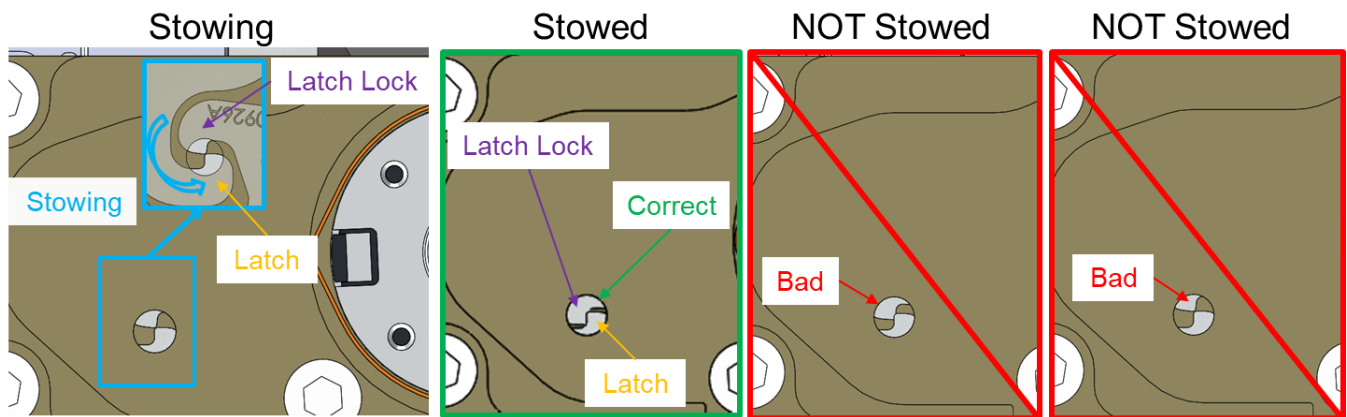

Figure 11-6: Visual Verification of Stowed Latch
11.2.5	<p>If “ping” is heard, continue to step 11.2.7.</p> <p>If no “ping” is heard, the ALB may still have correctly stowed. In some integration environments, loud background noise can make hearing the “ping” difficult. ALB stow can also be verified visually by looking at the Latch through use of a borescope between the ALB Leaves. See Figure 11-6. If latched correctly per Figure 11-6, proceed to step 11.2.7.</p>
11.3.4	If “ping” is heard, continue to step 11.3.6. If no “ping” is heard, the ALB may still have correctly stowed. In some integration environments, loud background noise can make hearing the “ping” difficult. ALB stow can also be verified visually by looking at the Latch through use of a borescope between the ALB Leaves. See Figure 11-6. If latched correctly per Figure 11-6, proceed to step 11.3.6.